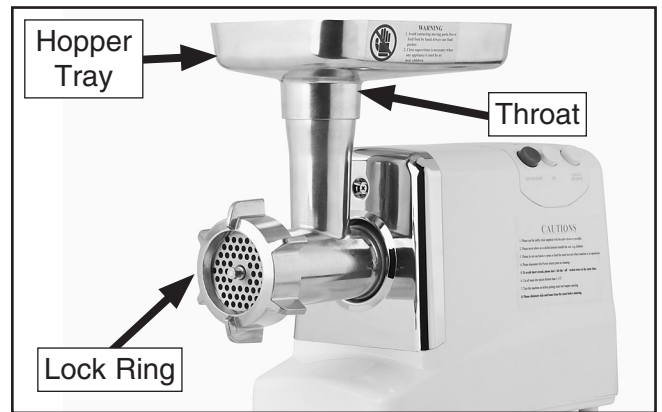

Figure 8. Lock ring and hopper tray installed.
- Thread the lock ring onto the grinding head to secure the auger and grinding plate—but do not overtighten it—then insert the hopper tray throat onto the grinding head (see **Figure 8**).